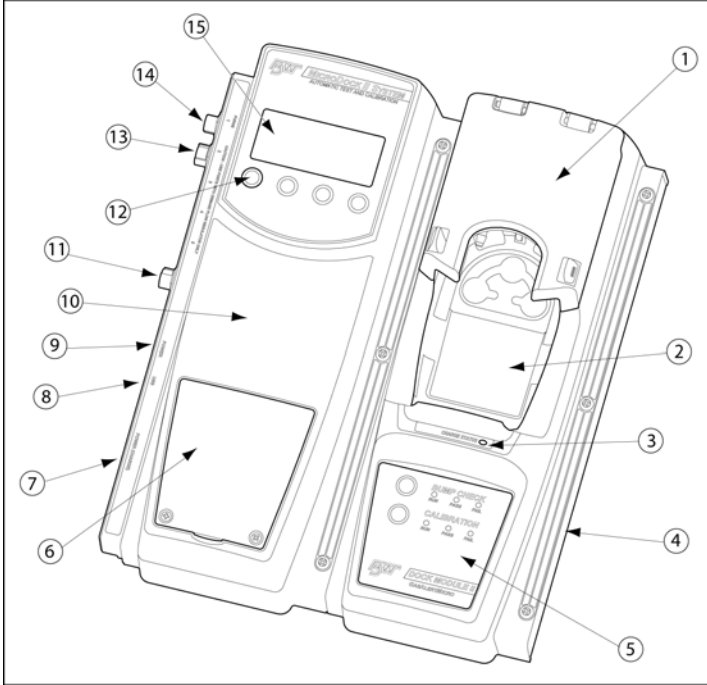

Figure 2. The MicroDock II Base Station and Docking Module
- Figure 2. and Table 2. The MicroDock II Base Station and Docking Module